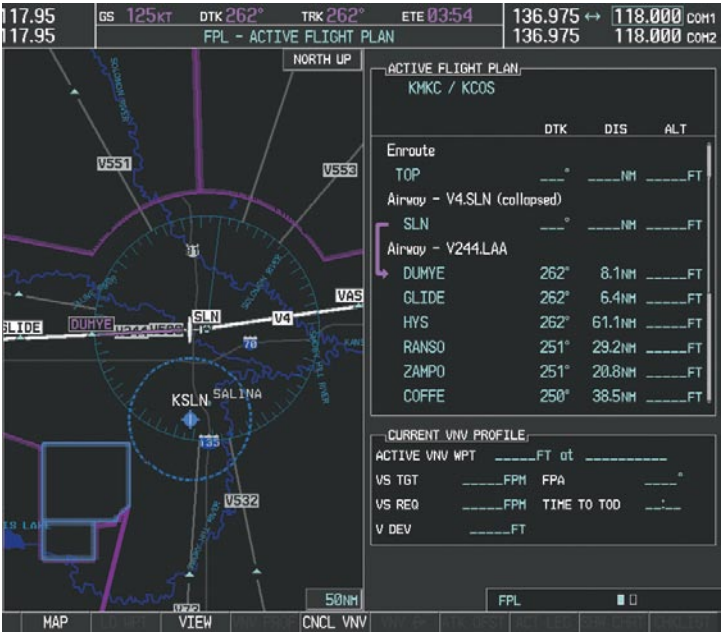

Figure 5-114 V244 Now Active Leg
9) As seen in Figure 5-114, V244 is now the active flight plan leg.